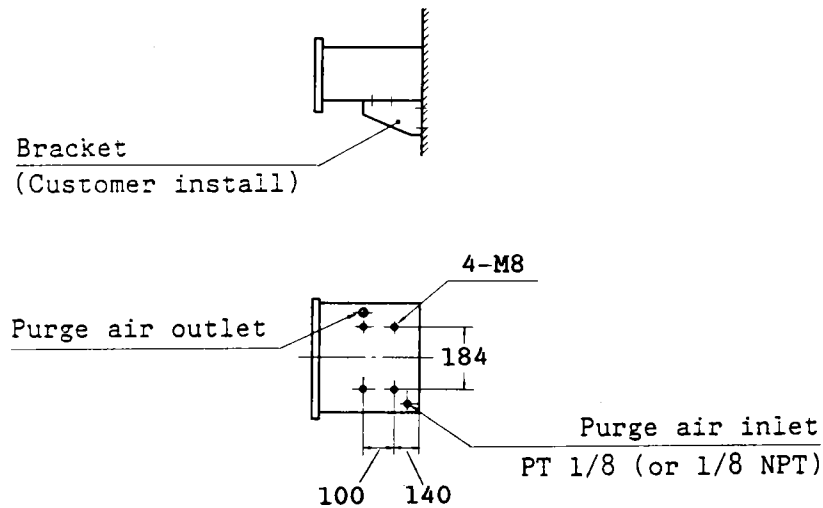

Figure 5.7 Wall Mounting
(3) Wall mounting---See Figure 5.7.
Fix a strong bracket to the wall using angled steel supports as shown in Figure 5.7. Note the location of the air purge inlet fitting when constructing the wall mounting bracket. The air purge fitting can be removed if it is not going to be used.